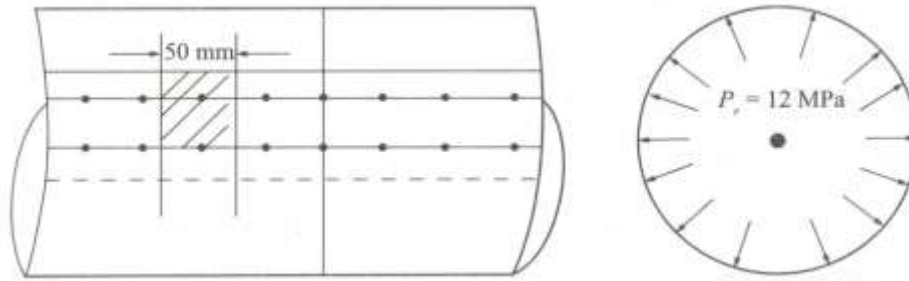

Figure 1
11. A boiler shell is made up of 14 mm thick Fe410 plates. The joint is double bolted lap joint with bolts of grade 4.6 at distances of 50mm as shown in Figure 1. Determine the strength of the joint. Per pitch width (14)